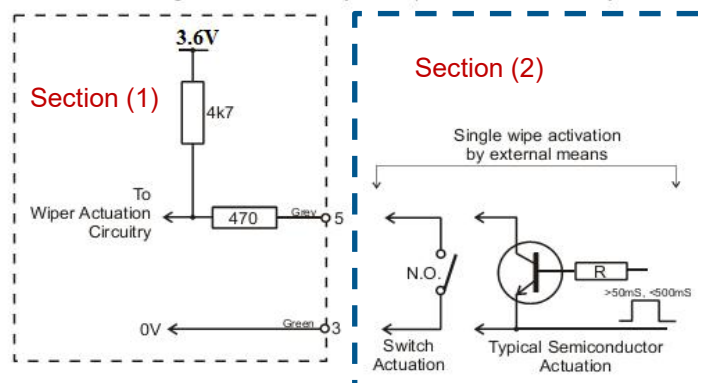

Figure 7.S: Recommended use of triggering optical wiper
- Please refer to **section (Figure 7.S: #1)** for internal characteristic for the calibration wire/wiper wire.
- Please refer to **section (Figure 7.S: #2)** on recommended use of the wiper activation wire using a relay output or using a Negative Positive Negative (NPN) transistor.